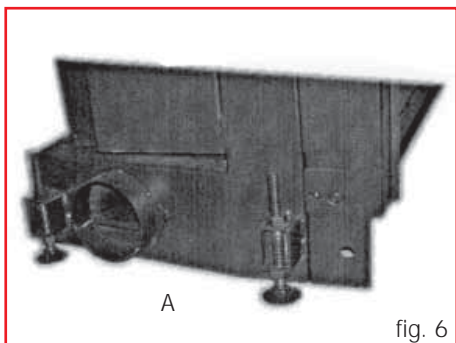

fig. 6
CRISTAL fuelling air can only be mounted in rooms where there is sufficient air power supply for fuelling. To have the chimney function correctly, it is essential that the fuelling air reaches the hearth through a fine pipe on the appropriate inlets, provided at the sides and rear of the chimney. A 12.5 cm fitting (A) is supplied, which is to be applied to the inlet to be used (fig. 6).